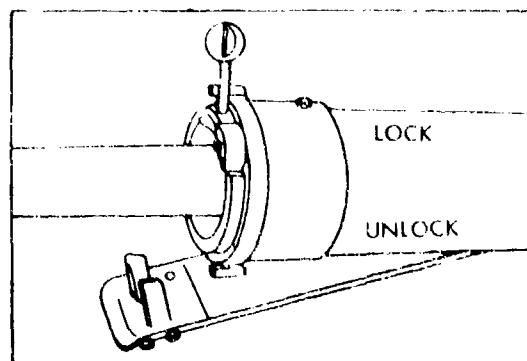

Figure 8-4. Recoil spade cylinder lock (shown locked).
(2) Turn on the hydraulic pump power takeoff (PTO) clutch switch.
(3) Place the two spade cylinder locks (fig 8-4) in the UNLOCK position.